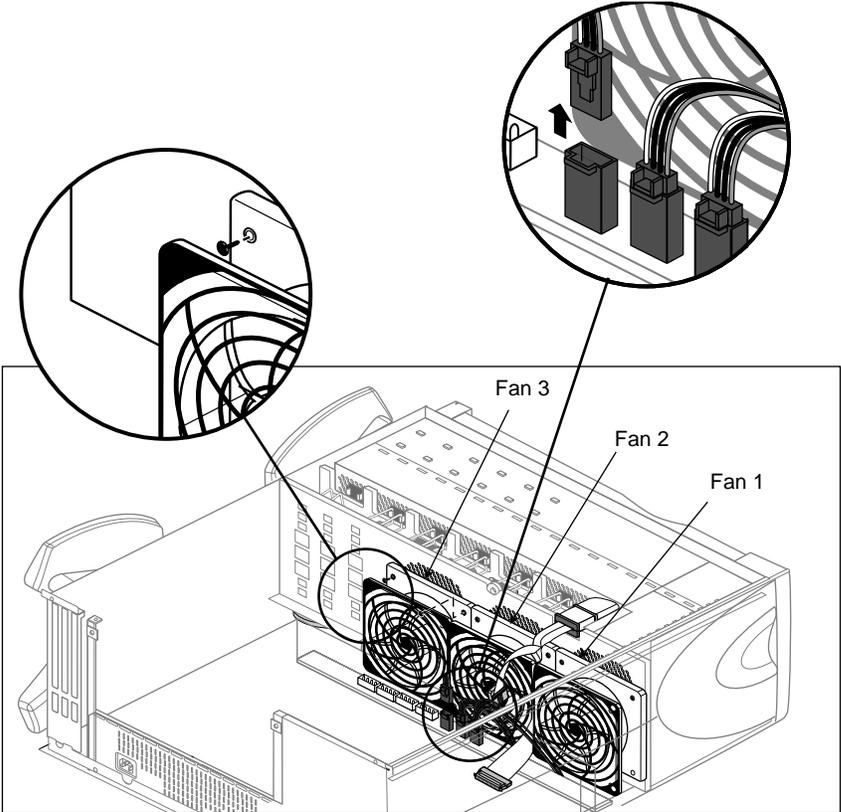

Figure 5-2 Disconnecting a Fan and Fan Power Cable (Some Components Not Shown For Clarity)
1. Unplug the power connector from the fan to the power supply, as shown in Figure 5-2.
2. Remove the two plastic rivets that hold the fan to the sheetmetal, as shown in Figure 5-2. Push them out from behind the sheetmetal with your fingertip.
In Figure 5-2, components in front of the fans (including the power supply and logic carrier) have been removed for clarity. In practice, you can remove and replace fans with the power supply and logic carrier in place.